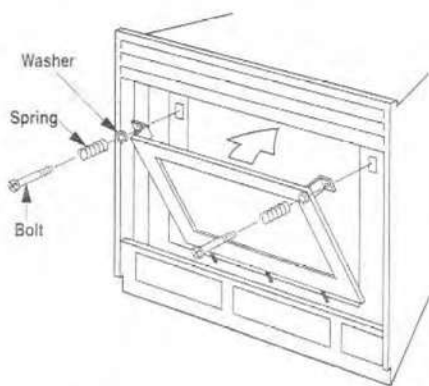

Figure 40
Position the panel at the front opening with the corner flanges at the top, extending toward the appliance. Carefully insert the panel into the lower cavity, aligning the three (3) pins on bottom of door with corresponding holes in the bottom surface. Tilt top toward appliance, inserting formed flanges into the rectangular openings at each side of combustion chamber opening. Assemble the spring and washer over bolt. Insert and fasten to nut plate at the rear of the opening (Figure 40). Start the bolt by hand, then tighten each bolt until bottomed out for uniform pressure on the panel seal. The bottom of the bolt head should be 2-1/2" (64 mm) from the door flange.